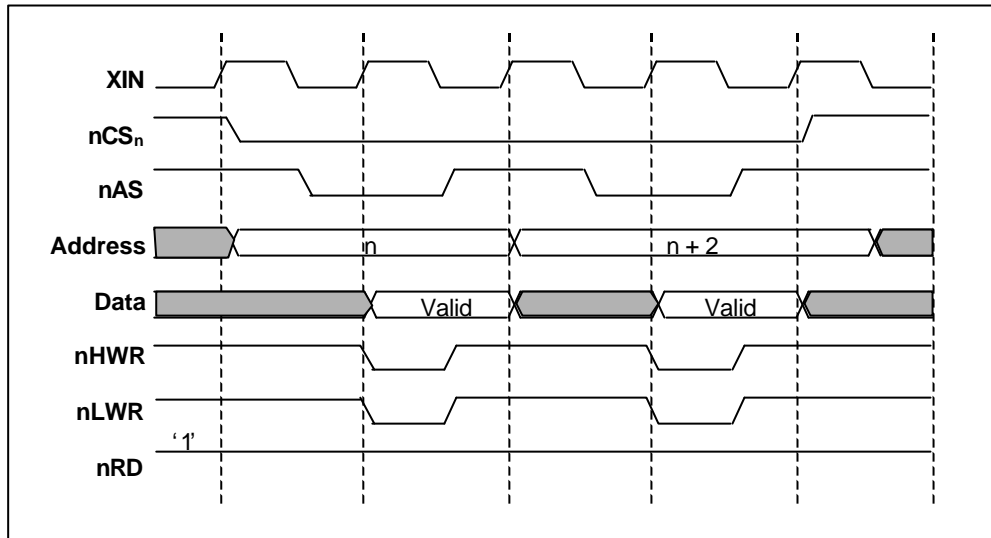
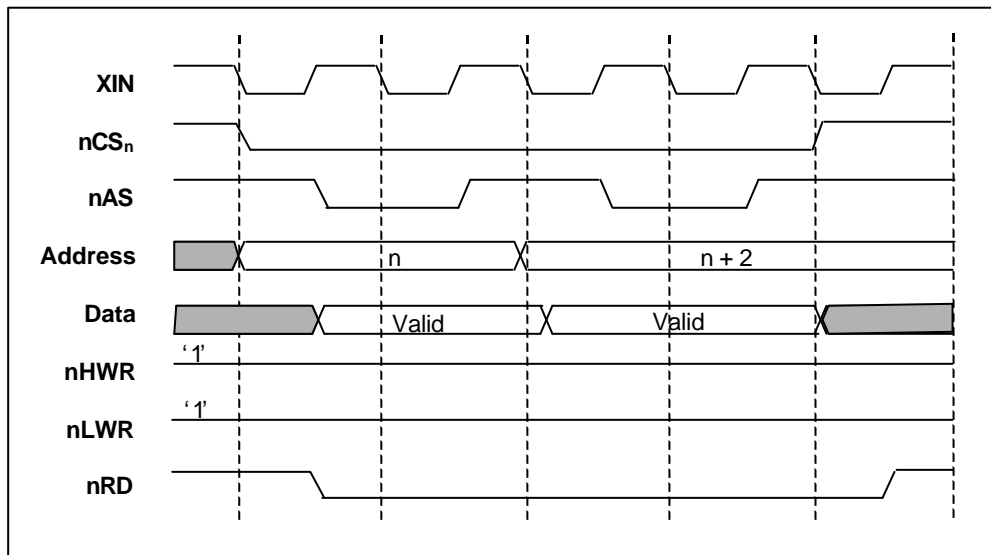

Figure 3.5 Bus Control Signal Write Timing for 16-Bit, 1-Wait (Word Access)
Figure 3.6 Bus Control Signal Read Timing for 16-Bit, 1-Wait (Word Access)
**16-Bit 1-Wait-Access Areas:** *Figure 3.5* shows the write timing of bus control signals for a 16-Bit 1-wait-access area (in case of 32-bit word access). *Figure 3.6* shows the read timing of bus control signals for a 16-Bit 1-wait-access area (In case of 32-bit word access). In this case the NormWait value in **BCR** of this area is '0'.